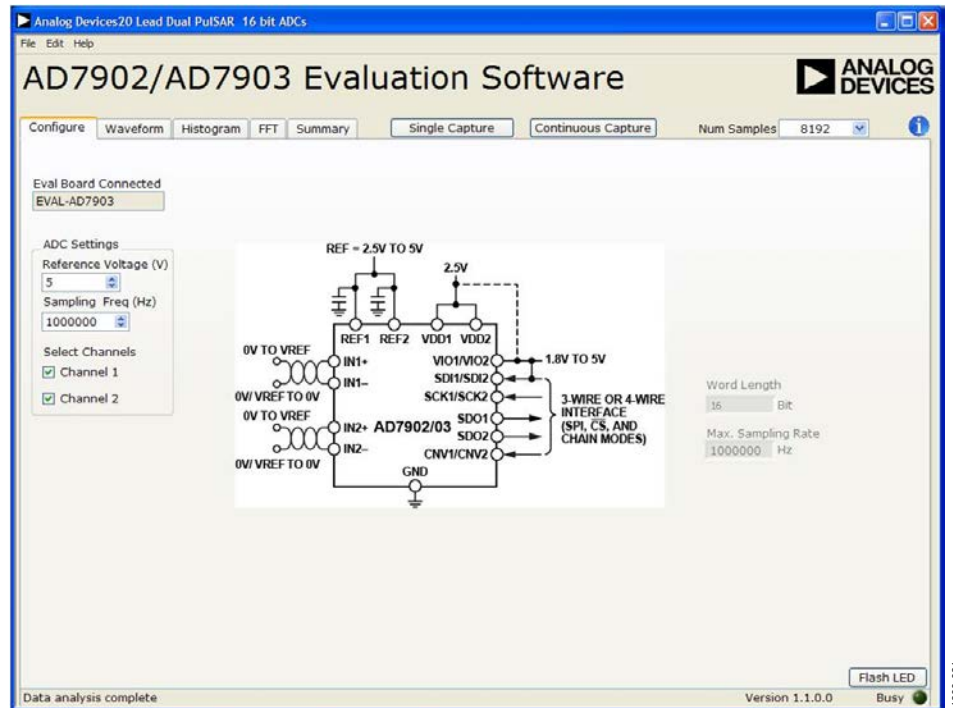

Figure 21. Main Window
4. After the board is correctly detected, the main window of the software appears (see Figure 21), showing that the EVAL-AD7903SDZ board is connected.
4. You can then load example files or previously saved files and analyze data. The main window of the software appears (see Figure 21), showing the evaluation board connected as the part number from the saved data file.
The main window of the software is shown in Figure 21 and has the features described in this section.